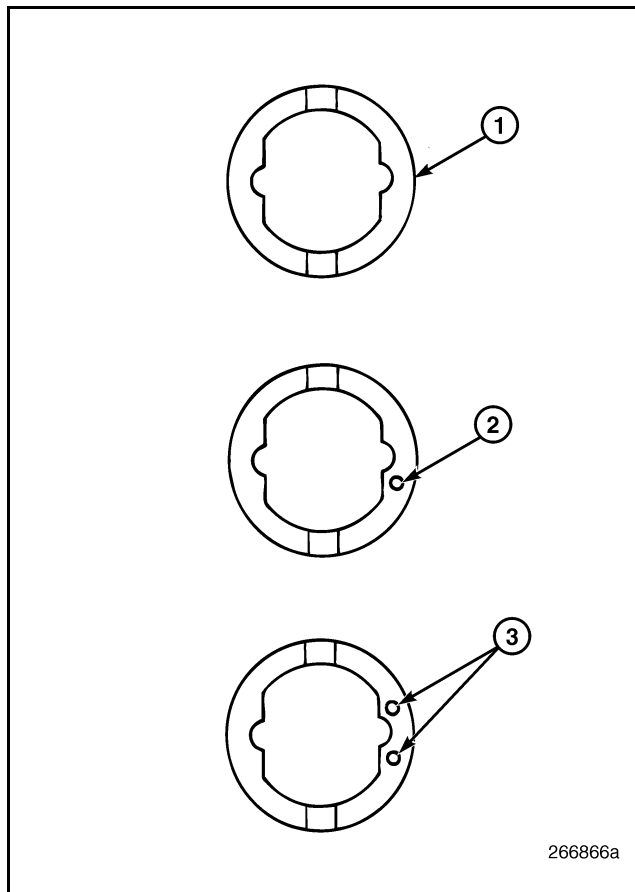

Figure 195 — Available H-Ring Sizes
- Check the fit of a **new** "P2" H-ring (+0.0015 inch [+0.0038 mm] oversize). If it is a press-fit, install it. The P2 can be identified by a single dot formed into the bottom surface next to the flat as shown in Figure 195.